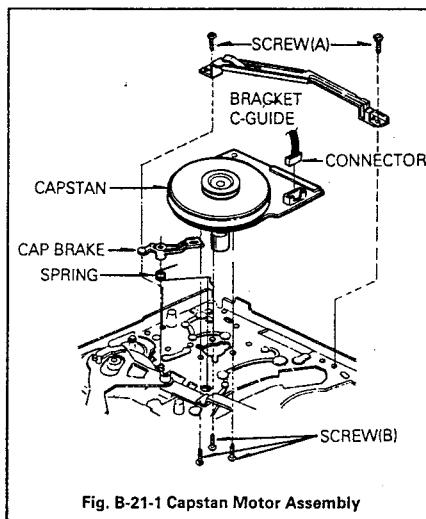

Fig. B-21-1 Capstan Motor Assembly
21. Capstan Motor and Brake Assembly (Fig. B-21-1)